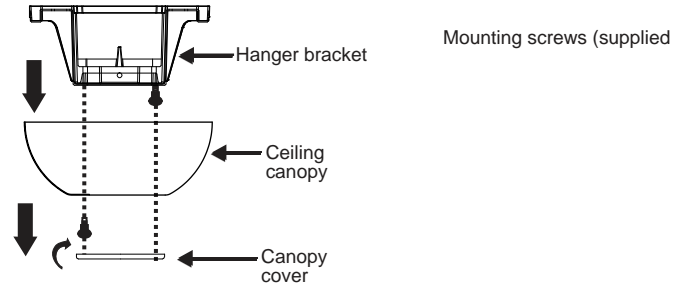

Fig. 5
**Step 1.** Remove the decorative canopy bottom cover from the canopy by turning the cover counter clockwise. (Fig. 5)
**Step 2.** Remove the ceiling mounting bracket from the canopy by removing (and save one of the two screws). Loosen the remaining screw by a half turn. (Fig. 5)